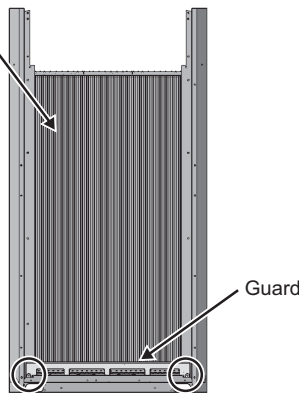

Fig. 25 Rear
- (2) Remove the rear guard. (Two screws: Fig. 25)